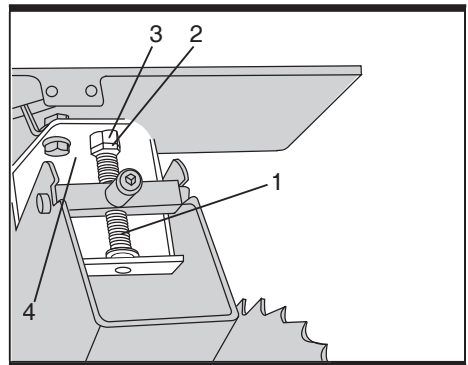

Fig 26
- 1) Using a 14 mm spanner, loosen the check-nut (2).
- 2) Adjust nut (3) until it is finger-tight against the bracket (4), and then back off the nut (3) 1/6 turn.
- 3) Tighten nut (2) with a second 14 mm spanner, while holding nut (3) with the first spanner in place. Maximum allowable play of screw rod (1) is 0.16 in. (4 mm) (See fig. 26).